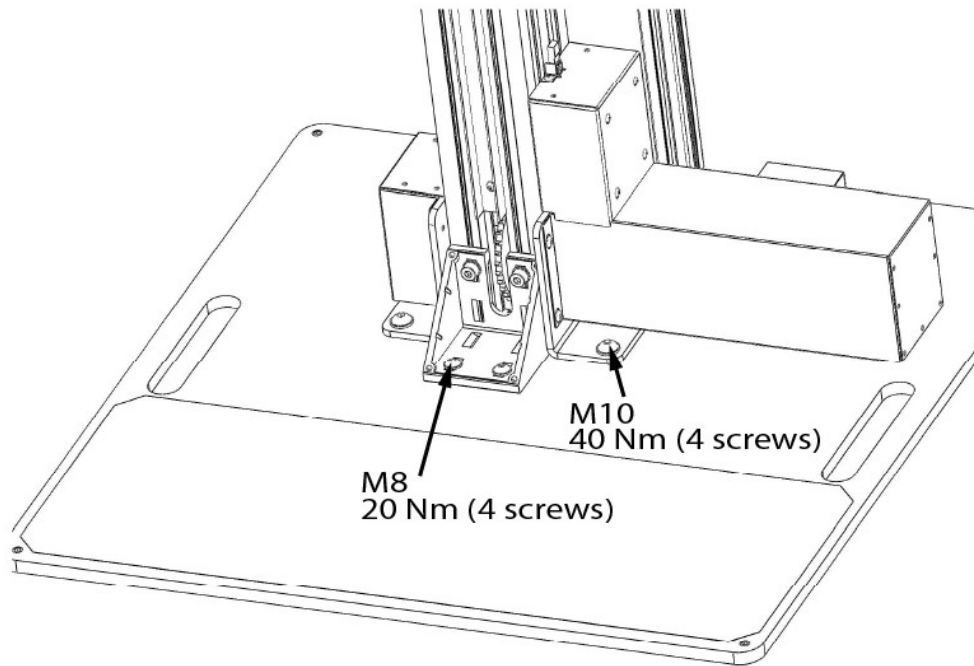

Figure 3: Stand mounting screws
6. Position the lower supports of the stand on top of the mounting holes of the Base Plate / floor as shown in **figure 3**.